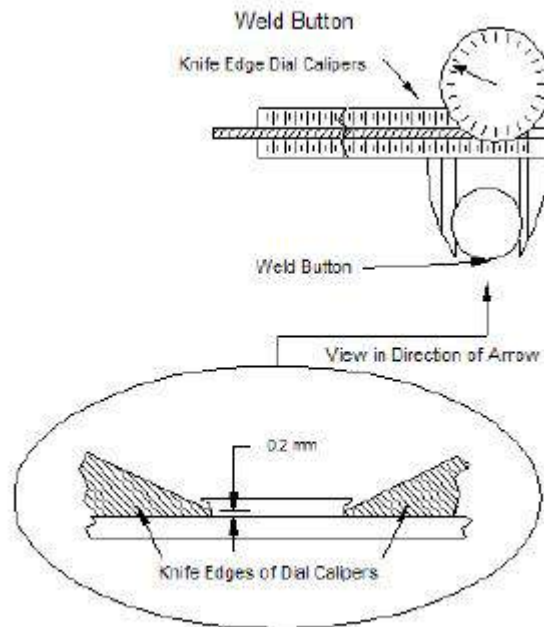

**Figure A12: Weld Button Size**
**Weld Button Size:** The weld button size of a symmetrical (round) button is the diameter of the button. The weld button size of an asymmetrical (oval or oblong) button is calculated by adding the measurement of the major axis to the measurement of the minor axis and dividing by 2. See Figure A12. The measurements are to be taken at the faying surface. See Figure A13.